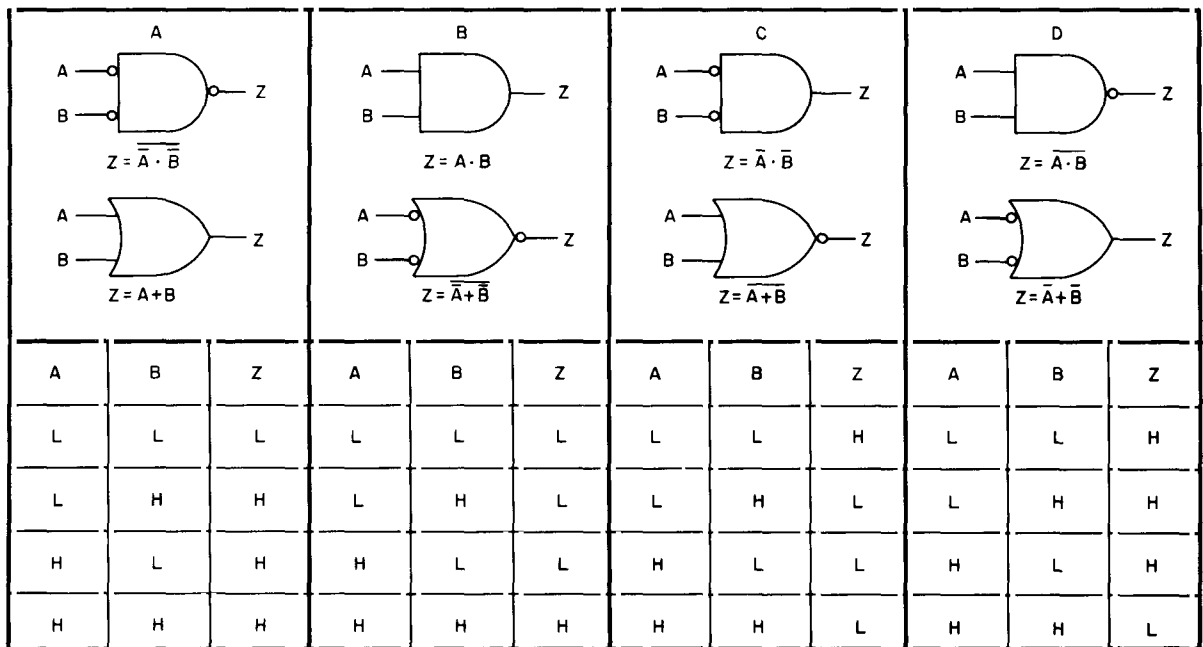

Figure 4-1. Logic Comparison Diagrams
4-4. Two states exist in the binary system, 1 and 0. HIGH (H) and LOW (L) are used to represent the levels of 1 and 0. HIGH always represents the more positive level, whether it be positive or negative logic. Figure 4-1 shows four pairs of logic symbols that have the same truth tables and can be used interchangeably. The same function is performed by what appears to be two different logic symbols.